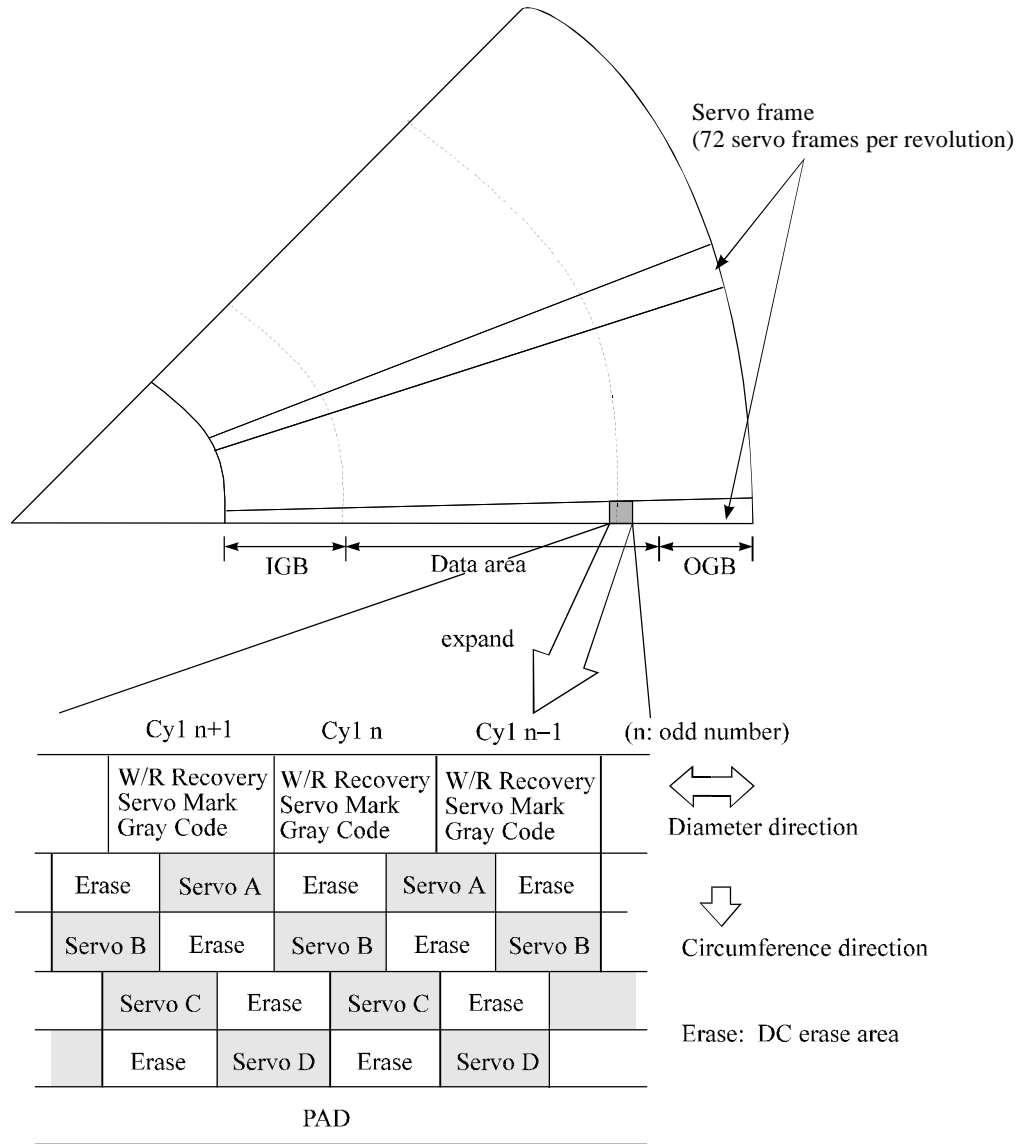
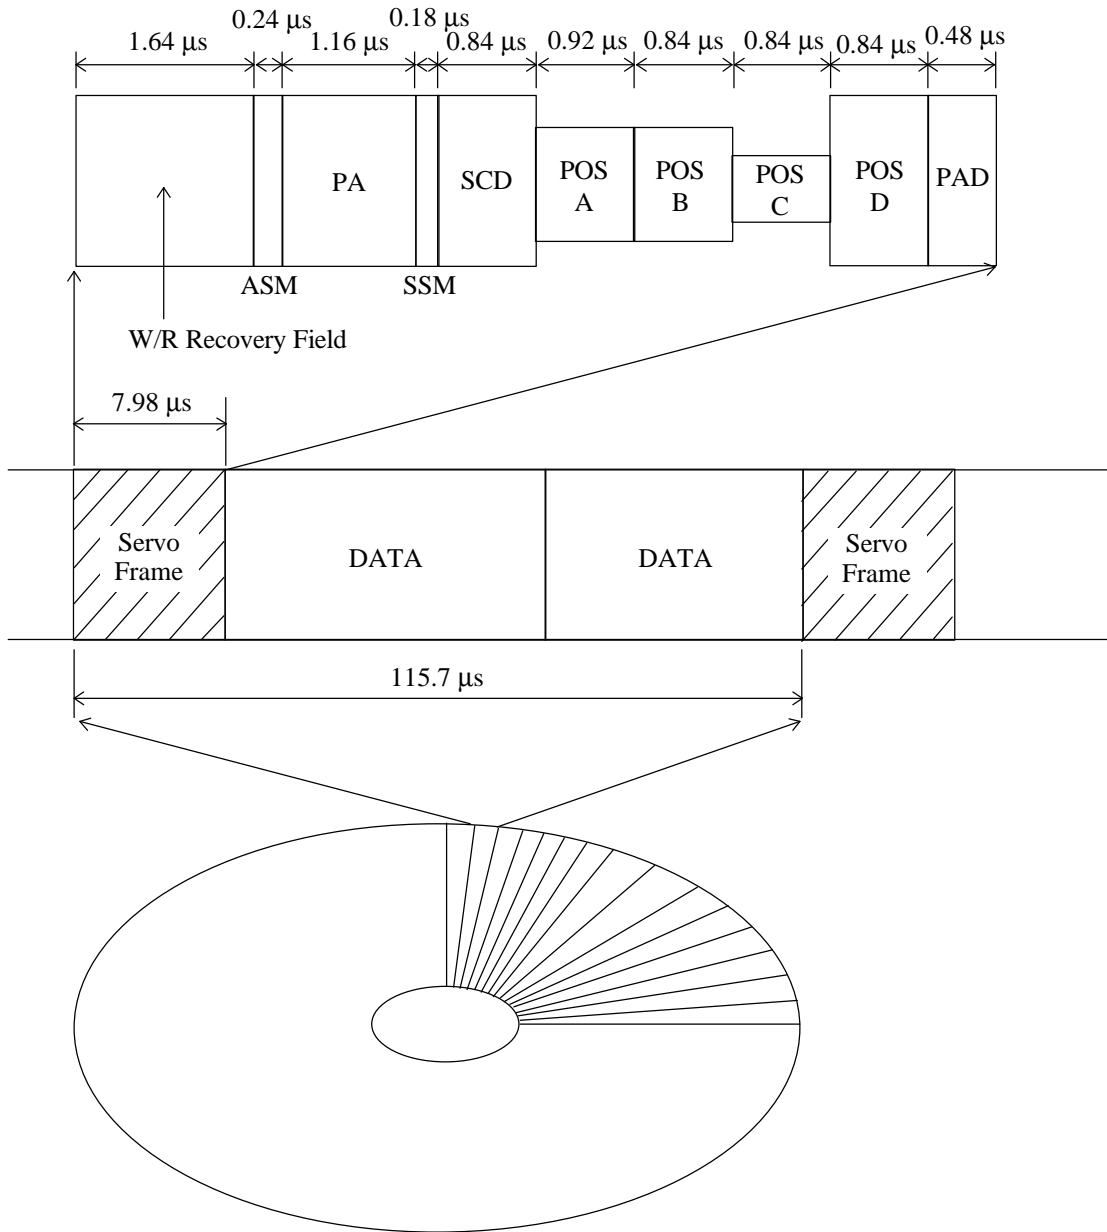

Figure 4.5 Physical sector servo configuration on disk surface
Figure 4.6 72 servo frames in each track
Figure 4.5 describes the physical layout of the servo frame. The three areas indicated by (1) to (3) in Figure 4.6 are described below.
(1) Inner guard band
The servo frame consists of 5 blocks; write/read recovery, servo mark, gray code, Pos A to D and PAD. Figure 4.6 shows the servo frame format.